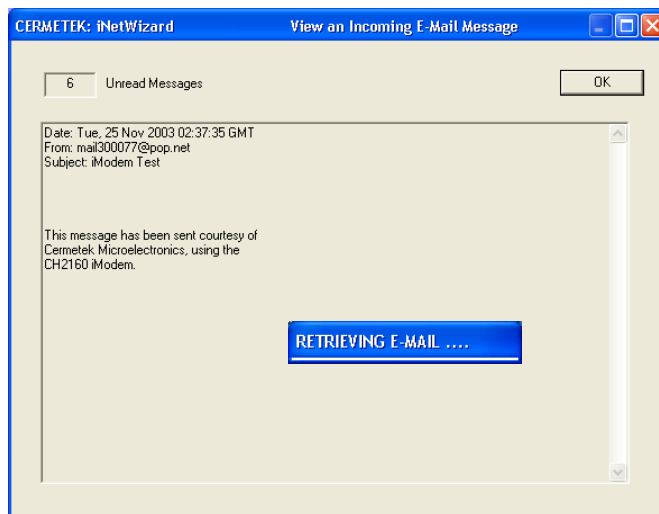
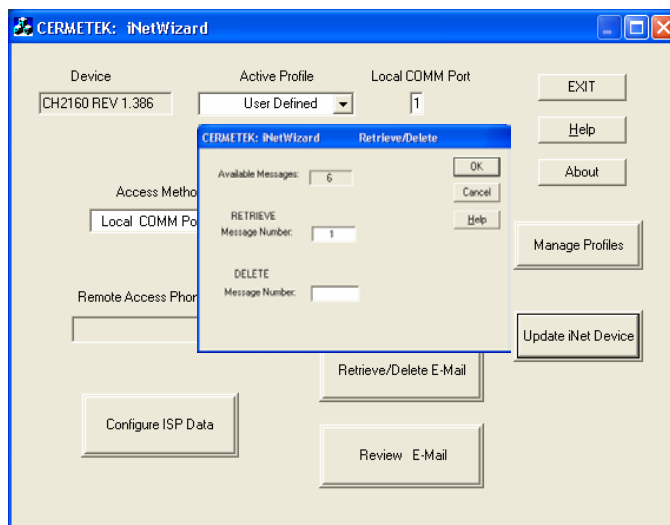

Figure 35. Review Retrieved Email Message window per Example 7.
Figure 38. Retrieve Data pop-up dialog box per Example 8.
Step 4. When the retrieve process is completed, the VIEWING AN INCOMING EMAIL MESSAGE window will open. Note that the RETRIEVING EMAIL status message will also be displayed. See Figure 35.
- Step 2. The pop-up RETRIEVE/DELETE window will appear. See Figure 38. Notice that the AVAILABLE MESSAGES window contains the number of messages available on the POP3 server. This was also displayed in the UNREAD MESSAGES window in the VIEW AN INCOMING E-MAIL MESSAGE window (see Example 7, Figure 35).